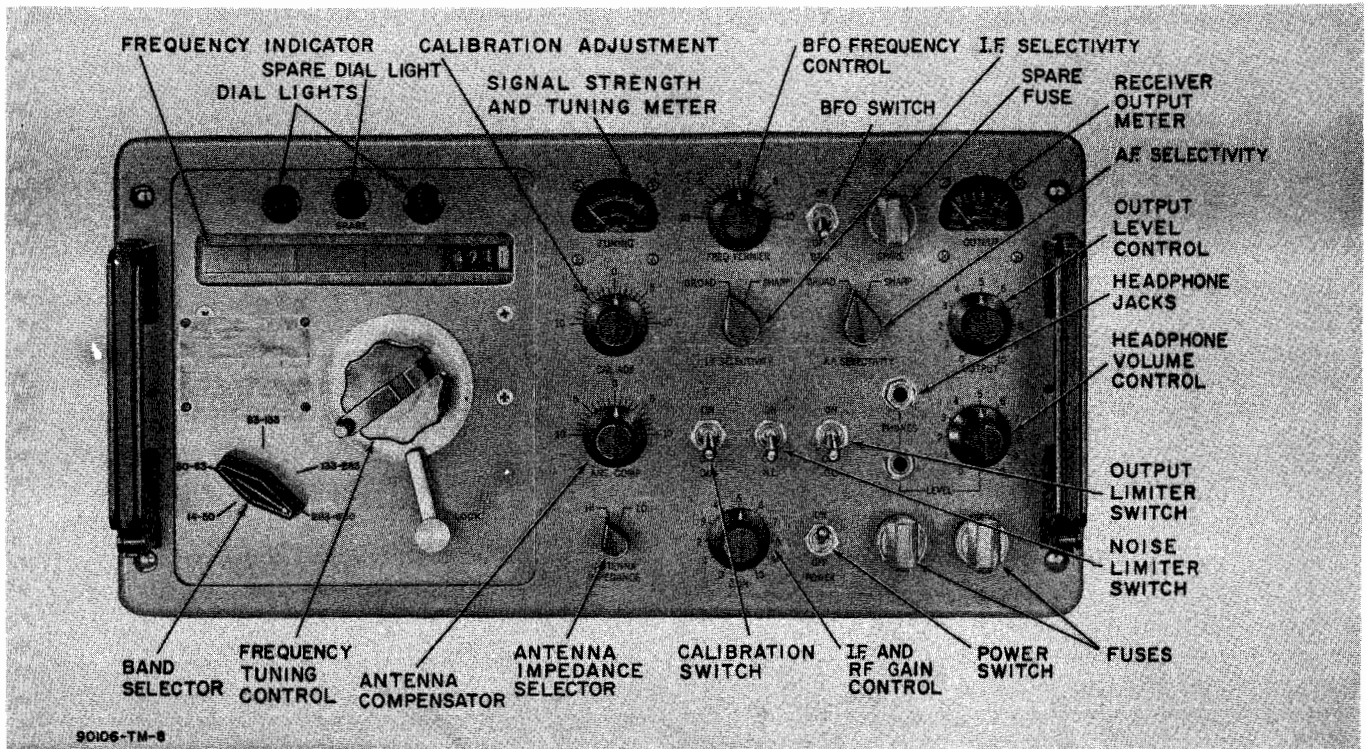

Figure 3-1. Operating Controls and Indicators
a. DESCRIPTION OF CONTROLS. - All operating controls, meters and indicators necessary for the operation of the receiver are on the front panel (see figure 3-1). The controls, meters and indicators are listed in their functions in table 3-1.
(1) CONTROL PRESET POSITIONS. - Before operating the receiver, preset the controls as follows:
(1) FUSE REPLACEMENT. - To replace a defective fuse, press in fuse cap and twist it a quarter turn counterclockwise and pull out. Replace the defective fuse with the SPARE fuse located on the front panel (see figure 3-1).